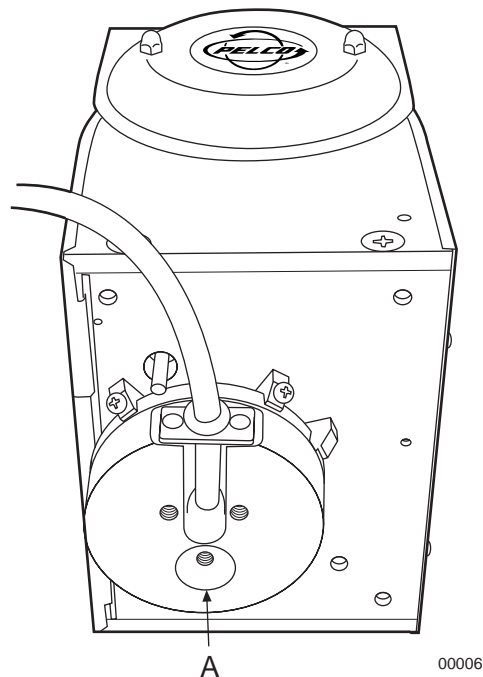

Figure 1. Earth Ground Connection
3. Mount the pan/tilt with the braided wire strap in direct contact with the bare metal around the middle mounting hole. See A, Figure 1.